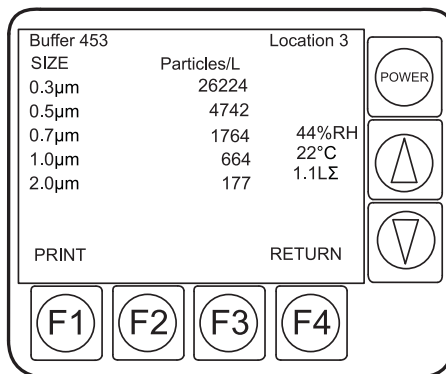

Figure 19 Buffer review screen
*Note: When the user enters the Buffer Review screen for the first time the last record stored in the buffer is displayed (refer to Figure 19 on page 32).*